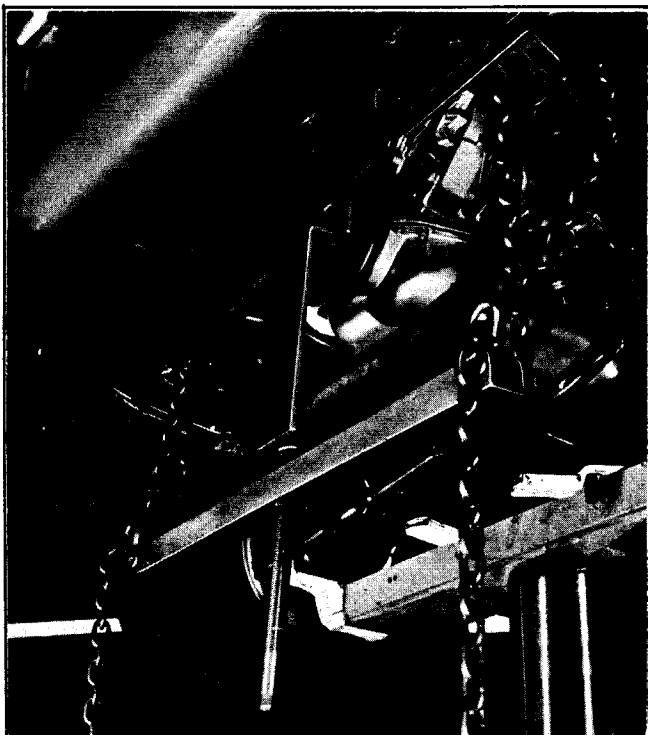

Fig. 6-19 Engine Lifting Tool Installed - Typical
1. Support engine with J 23515-3 adaptor and engine lifting support tool, wrapping chains around frame (Fig. 6-19). (On X Series models, it may be necessary to add washers between adapter and harmonic balancer to provide initial clearance between adapter and frame).